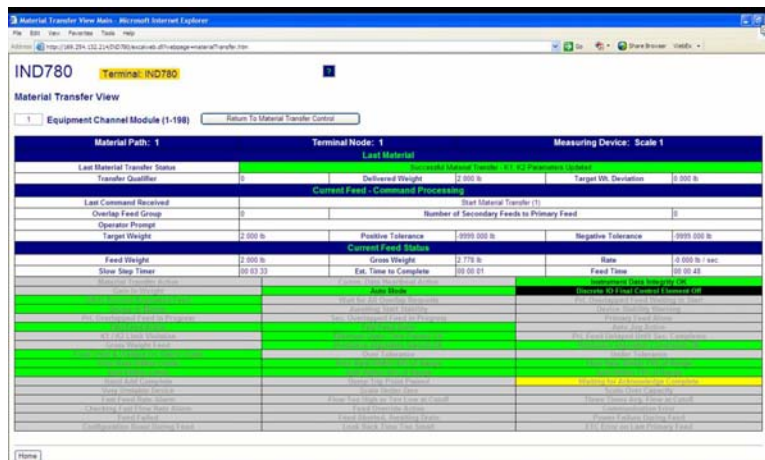
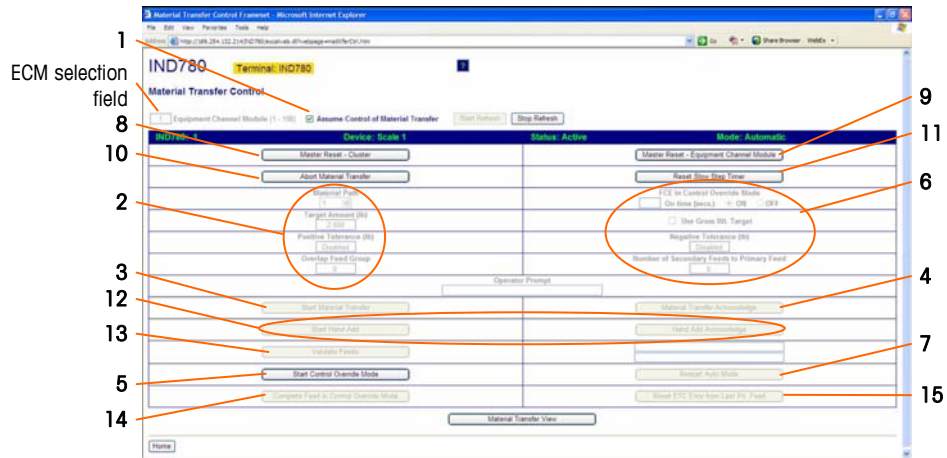

Figure 2-46: Material Transfer View
Figure 2-47: Material Transfer Control
The next Q.iMPACT web page option is the Material Transfer view (Figure 2-46). In the field at top left, enter the Equipment Channel Module (Scale, Flow Meter or Storage Scale) to view. Like the PAC Parameters page, the Material Transfer page displays status and results for the selected Equipment Channel Module (ECM). Access the Material Transfer Control view (Figure 2-47) by clicking the button to the right of the ECM entry field, or return to the Index view by clicking the Home button at bottom left.
The final web page unique to the Q.i application on the IND780 Terminal is the Material Transfer Control view (Figure 2-47).
Figure 2-47 shows the system in Automatic Mode. This view is particularly useful during startup and commissioning. From here, it is possible to perform a material transfer independent of the host PLC or DCS control system. All the necessary parameters can be entered and the transfer started.
Enter the Equipment Channel Module (ECM) number for the material transfer. The ECM can be a Scale, a Flow Meter or Storage Scale. Next, check the **Assume Control of Material Transfer** box (# 1, in Figure 2-47). Enter the desired Material Path, target amount and, optionally, the tolerances (2).